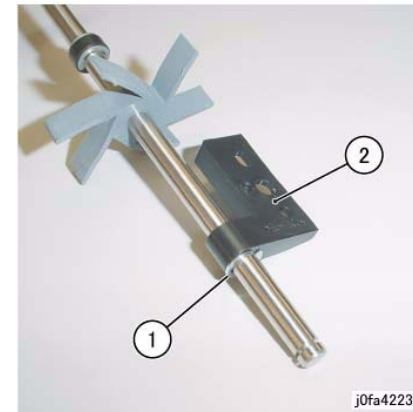

Figure 6 Removing the Support Bearing
9. Remove the Support Bearing from the Main Paddle Shaft Assembly (Figure 6):